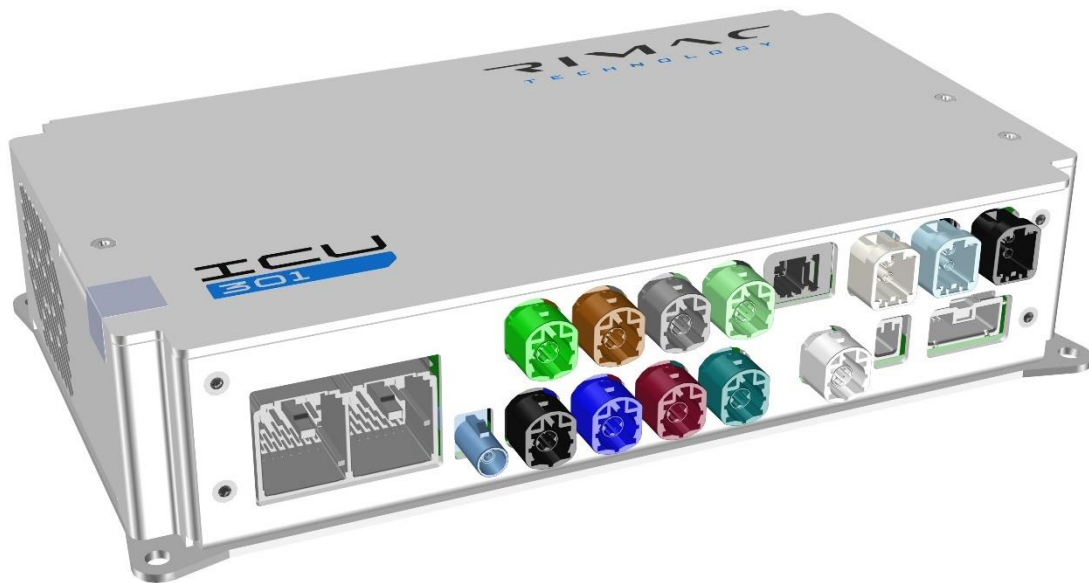

Figure 1 - Infotainment Control Unit (ICU_301)
- Infotainment Control Unit (ICU_301) - Figure 1